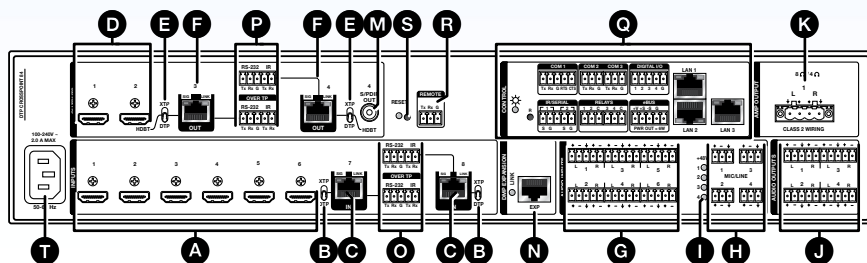
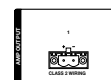

Figure 2. DTP CrossPoint 84 IPCP SA Switcher Rear Panel
Figure 5. Mono Audio Amplified Output Blocks
NOTE: L, below, is on the mono audio versions of the switcher and is shown on figure 5, on page 7. It is in the same location on the switcher as K, in figure 2.
- L Amp Output 1 (mono audio model, see figure 5)** — Connect passive, speakers to this 2-pole captive screw connector to receive the amplified audio from output 1.